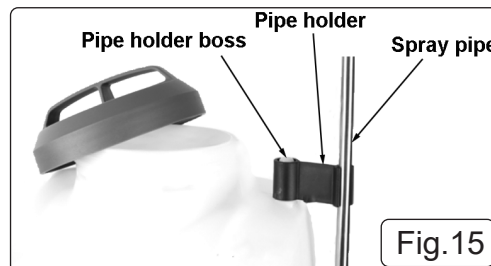

Fig.15
5.14.1. Fully slide the pipe holder over the pipe holder boss (fig 15).
5.14.2. Insert the spray pipe into the pipe holder (fig 15).